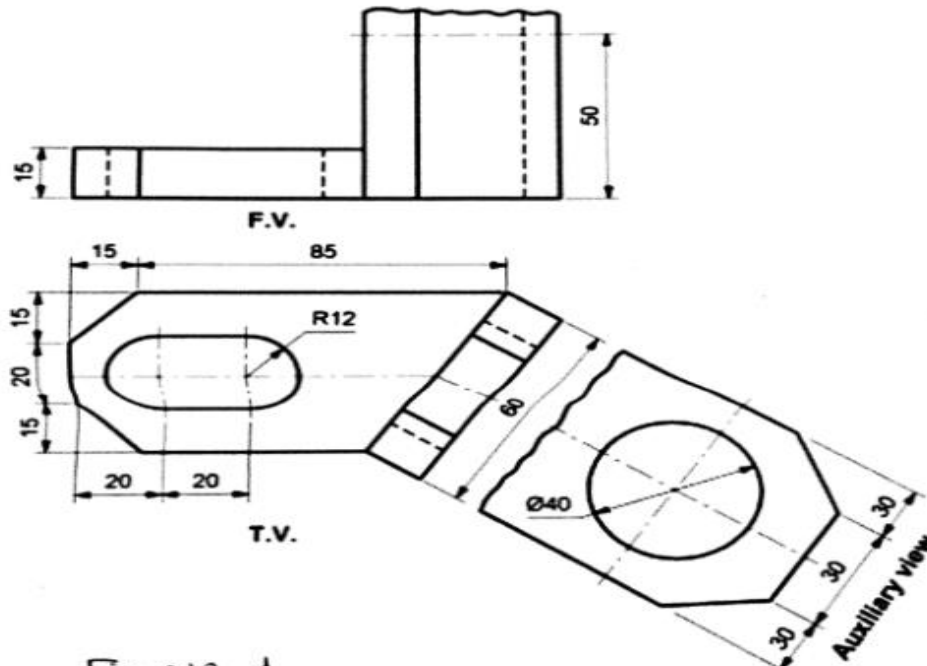

Fig. NO. 1.
- Q.2 Fig. No. 1 shows the incomplete front view, top view and partial auxiliary view of Bracket. Draw the given views & complete the front view & also draw left hand S.V. 12